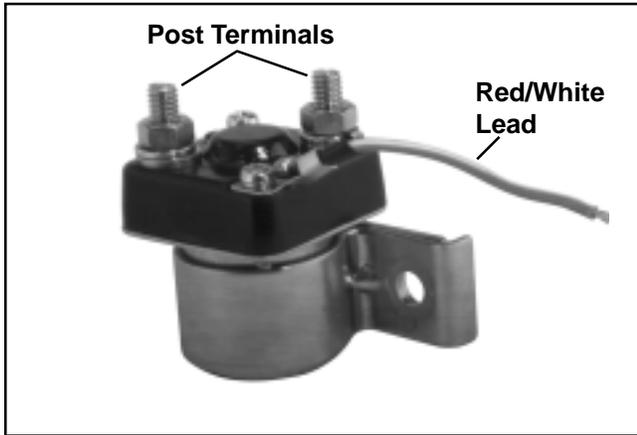

Figure 8-21. Solenoid Details.
5. Disconnect the leads from the starter solenoid and remove it from the starter for testing. See Figure 8-21 on page 8.19. <ul style="list-style-type: none"> <li>a. Set an ohmmeter on the Rx1 scale and zero the meter. Connect one ohmmeter lead to the terminal of the red/white lead from the solenoid. Connect the other ohmmeter lead to the solenoid mounting bracket.</li> <li>b. With the ohmmeter still on the Rx1 scale, connect the leads to the two large post terminals.</li> <li>c. Leave the ohmmeter leads connected to the large terminals. Connect a jumper lead from the positive terminal of the battery to the terminal of the red/white solenoid lead. Connect another jumper lead from the negative terminal of the battery to the solenoid mounting bracket.</li> </ul>	5. a. The resistance of the energizing coil should be at least 3.4 ohms. If the meter reading is less than 3.4 ohms, or an open circuit is indicated (infinity ohms), the solenoid is faulty and must be replaced. b. The meter should indicate an open circuit (infinity ohms, no continuity). c. When the circuit is completed, applying 12 volts to the energizing coil, an audible click should be heard as the solenoid engages, and the ohmmeter should then indicate continuity between the large terminals. If the results are other than indicated, replace the solenoid.